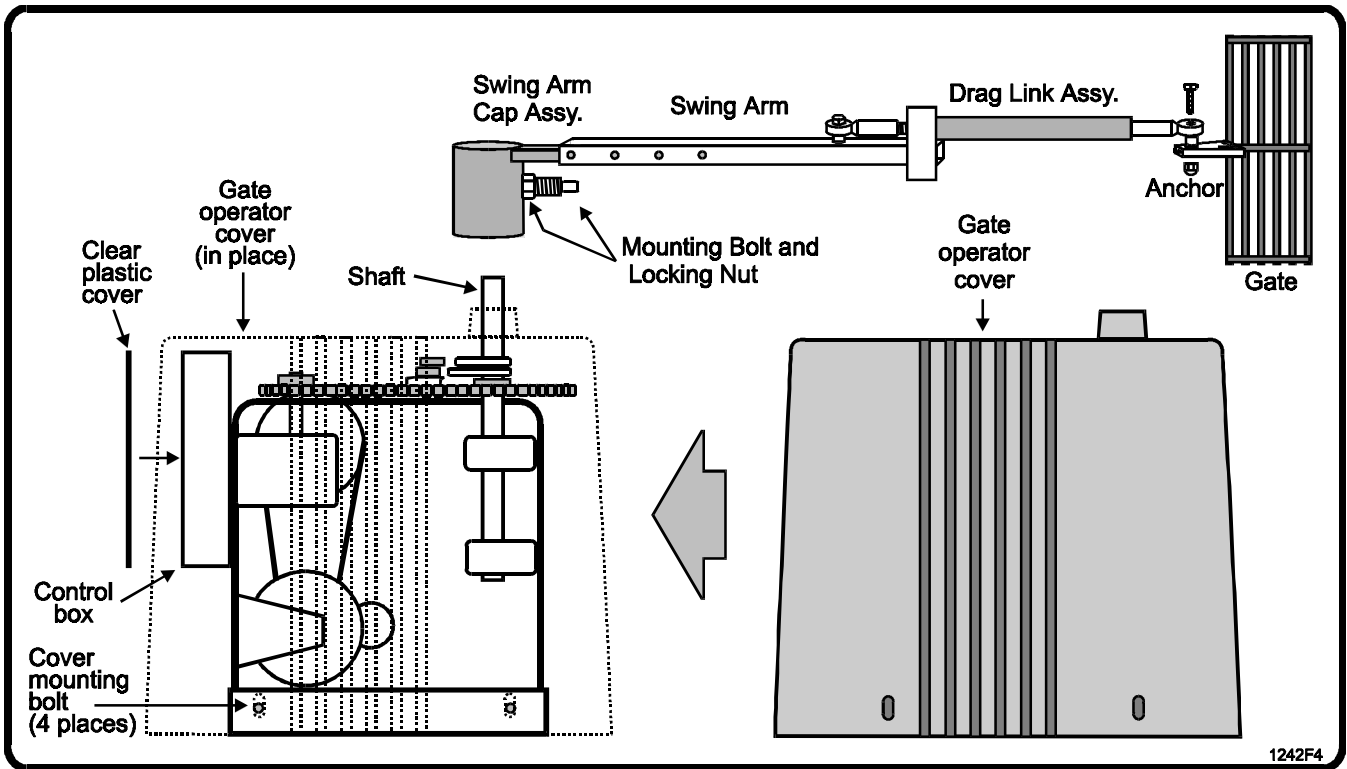

Figure 20. Gate Operator Disassembly and Assembly.
- ◆ Refer to Figure 20, above, to perform the following instructions.